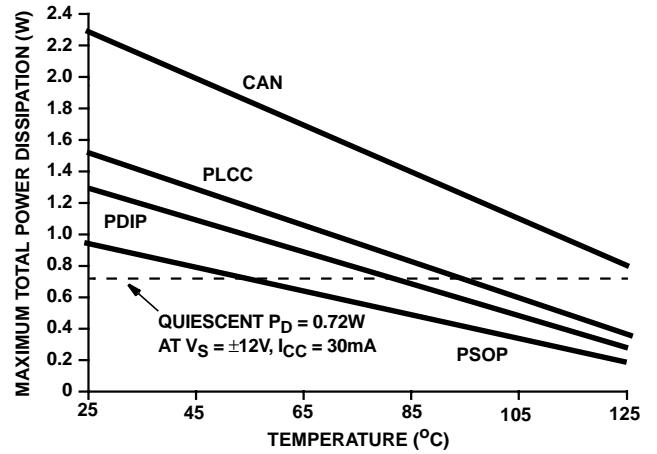

FIGURE 5. MAXIMUM POWER DISSIPATION vs TEMPERATURE
- Maximum power dissipation, including load conditions, must be designed to maintain the maximum junction temperature below 175°C for the metal can package, and below 150°C for the plastic packages (See Figure 5).
- Maximum operating temperature in the PSOP package is limited to 60°C, for $V_{SUPPLY} = \pm 12V$ to prevent the junction temperature from exceeding 150°C. The maximum operating temperature may have to be derated further, depending on the output load condition. The operating temperature may be increased if the HA9P5033 is operated at lower V_{SUPPLY} . For example, the quiescent operating temperature may be increased to 75°C by operating at $V_{SUPPLY} \leq \pm 9.7V$. See Figure 5 for more information.
Figure 5 is based on: